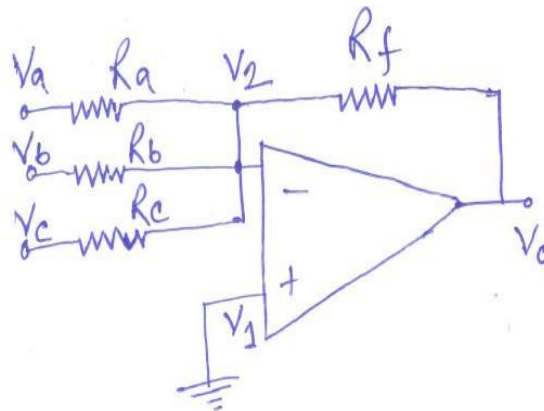

Fig.3.16 Inverting Summer Circuit
3.6.4.1 The configuration as shown in following Fig.3.16 can be used as a summing amplifier. Where three input voltages are V_a , V_b & V_c . R_f is feedback resistor and the input resistors are R_a , R_b , R_c .